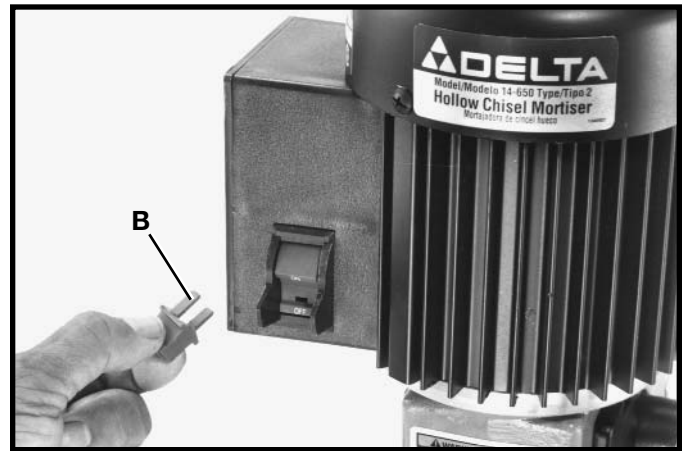

Fig. 27
When the tool is not in use, the switch be locked in the “OFF” position to prevent unauthorized use. This can be done by grasping the switch toggle (B) Fig. 27, and pulling it out of the switch, as shown. With the switch toggle (B) removed, the switch will not operate. However, should the switch toggle be removed while the machine is running, the switch can be turned “OFF” once, but cannot be restarted without inserting the switch toggle (B).